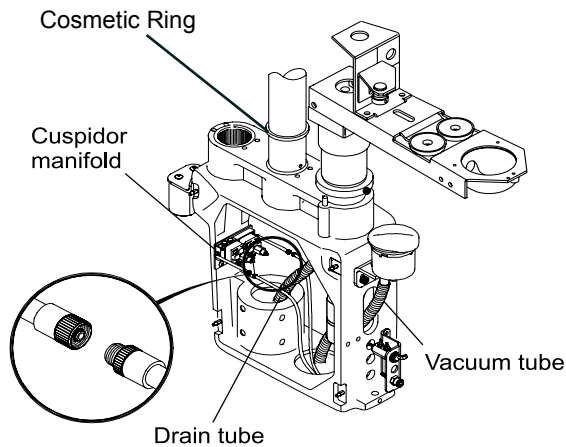

Figure 2 (Internal Umbilical)
b. Connect the 1/4" blue and yellow tubing to the corresponding tubing coming from the cuspidor manifold (see figure 2).